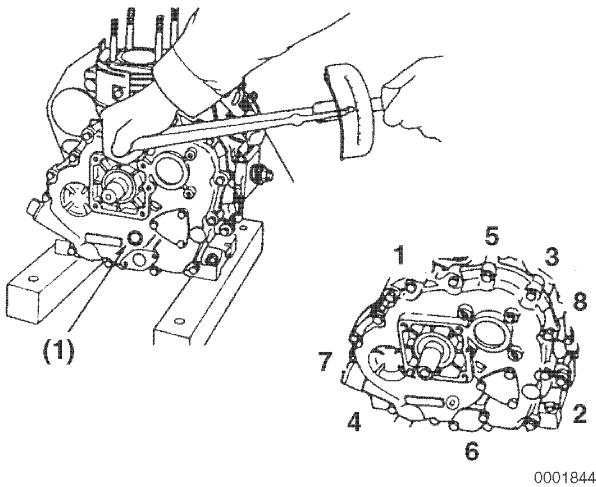

Figure 6-102
4. Install the crankcase cover (**Figure 6-102, (1)**) while pushing down lightly on the crankcase cover. Slowly turn the flywheel to allow the governor / oil pump drive gear to mesh with the camshaft gear. Maintain the light pressure while “wiggling” the cover slightly to align the balancer shaft bearing and the camshaft bearing with their respective pockets in the underside of the cover until the cover drops into place.
5. Tighten the crankcase cover bolts to the specified torque in two stages (1/2 then full torque) in the sequence shown (**Figure 6-102**). See *Special Torque Specifications* on page 6-18.
- Tighten the stiffener bolts after the bolts on the crankcase perimeter are tightened (**Figure 6-102**). See *Special Torque Specifications* on page 6-18.